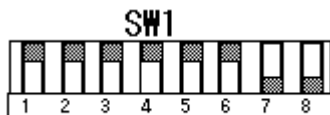

Figure 4.1 DIP Switch Setting at Shipment
2. Before executing the diagnostic program, make sure the DIP switches have the same settings as at shipment (refer to figure 4.1).